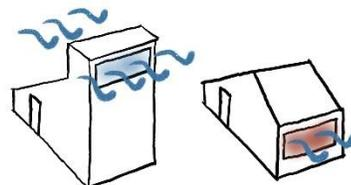

Fig. 18: Taller buildings can benefit from unobstructed higher wind speeds at greater heights (Source: Author)
- Shaping a building including taller sections enhance both cross ventilation and **stack effect** ventilation (Fig. 18).